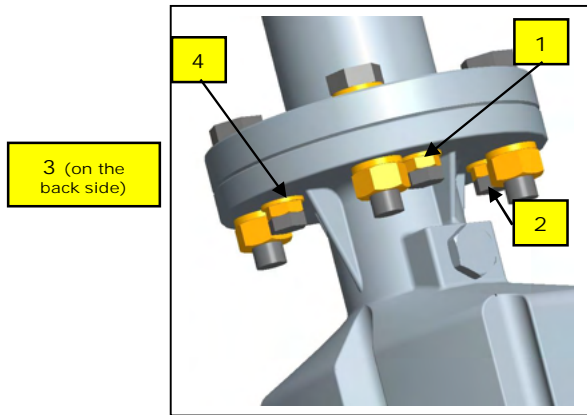

Fig. 16
- Move the vertical axis to the left (black arrow – Fig.16) and unscrew the screws 1-4-3 and fix the M12 screw until the end of the working range.